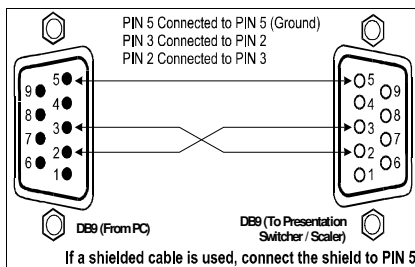

Figure 4: Connecting the PC
- Connect the RS-232 DB9 port on your PC to the RS-232 DB9 rear panel port on the **VP-727A** unit, forming a cross-connection², as Figure 4 illustrates